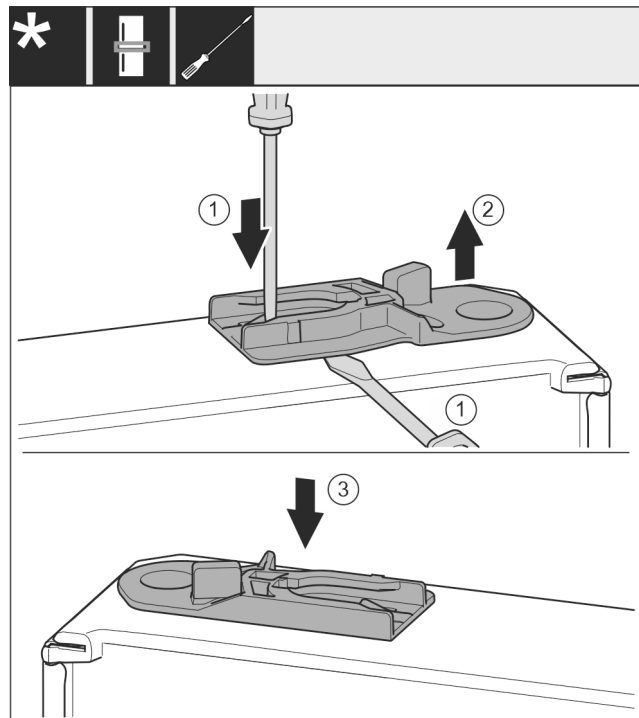

Fig. 36
- ▶ Pull out the guide bushing: Press the tab Fig. 36 (1) with the slotted screwdriver while running the slotted screwdriver under the guide bushing Fig. 36 (2) at the same time.
- ▶ Insert the guide bushing Fig. 36 (3) supplied in the scope of delivery on the other side of the housing.